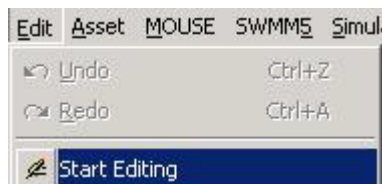

Figure 10.2 Start editing
- Go to 'Edit|Start Editing' - see Figure 10.2